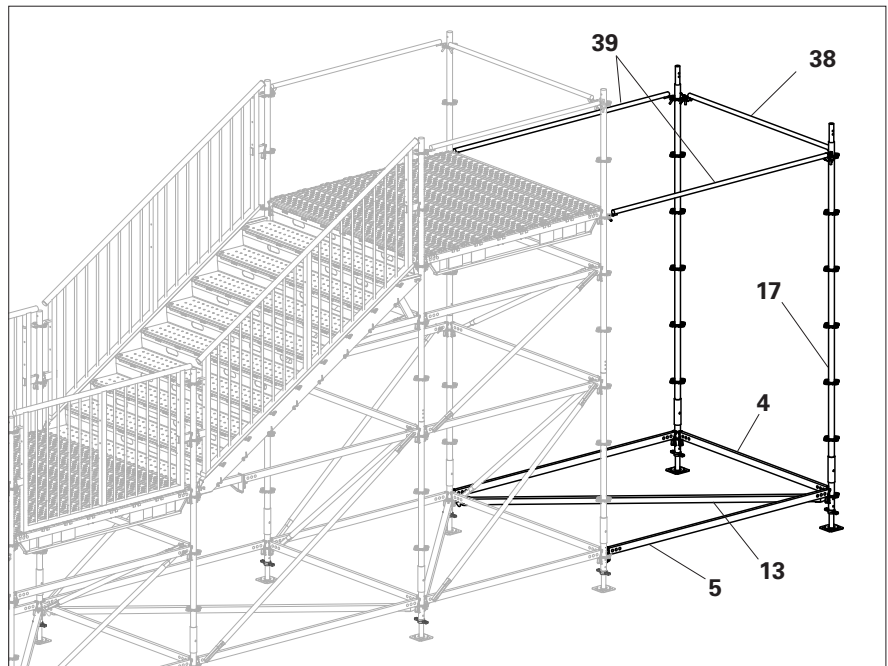

Fig. C1.16
4. Connect 1 x Guardrail UPGA 200 (**38**) between the standards, then insert the two standards into base standards. (Fig. C1.16)